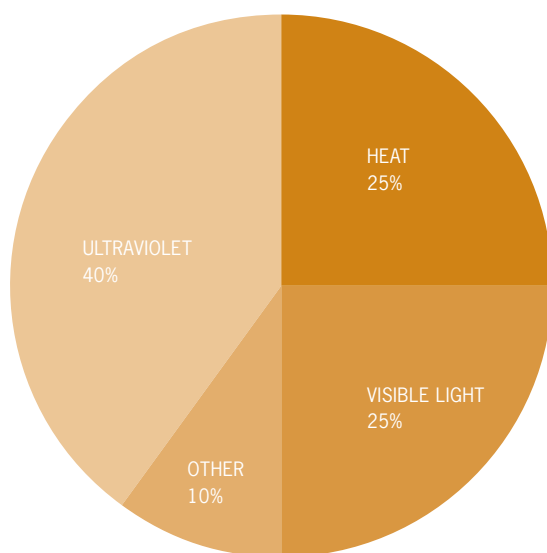

Figure 1. The causes of fading of furnishings and fabrics
**3.1.2** The three main causes of fading of paint, fabrics and furnishings are ultraviolet radiation (especially UVA rays), heat and visible light. Humidity, artificial lighting and poor dye anchorage only have a small impact. Figure 1 indicates the typical size of these effects.